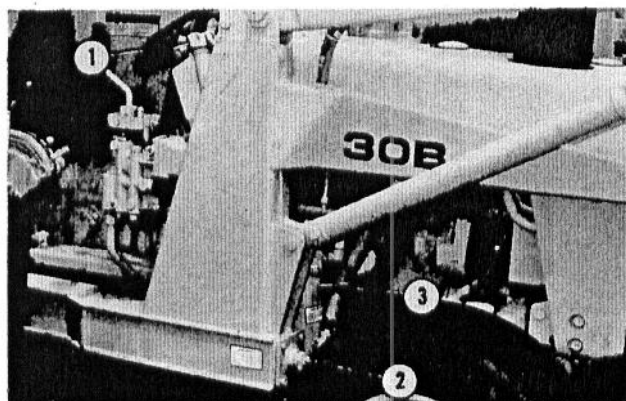
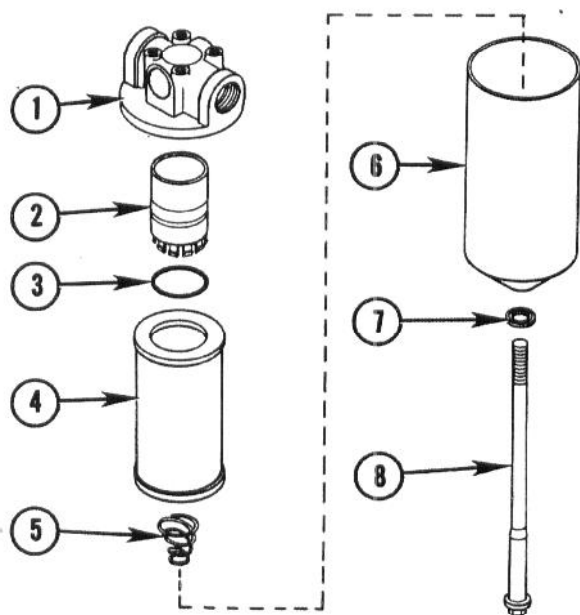

Fig. 51 — Location of Suction and Return Oil Filters — MF 34A Loader (MF 32A Loader Filters Location Similar)
Fig. 60 — Return Oil Filter Assembly
The suction and return oil filters are located as shown in Figs. 51 and 53.
Service filter as follows ... see Figs. 51 and 52:
This filter is located as shown in Figs. 51 and 53. Service filter as follows ... see Fig. 60:
2. Separate parts from head as shown in Fig. 60 ... thoroughly clean inside of housing.